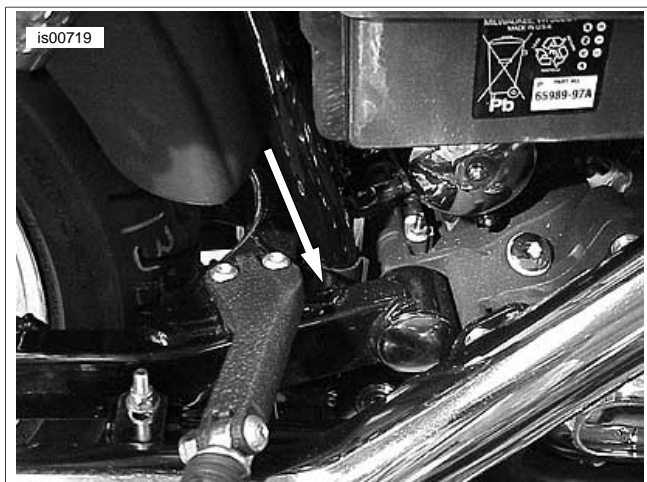

Figure 6. Rear Leverage Points (Right Side Shown, Left Side Similar)
2. See Figure 6. Using a suitable tool wrapped in a clean, soft cloth, between the swingarm and frame, as indicated by the arrow, move the rear wheel to the left or right, as necessary, to provide clearance for the gauge.